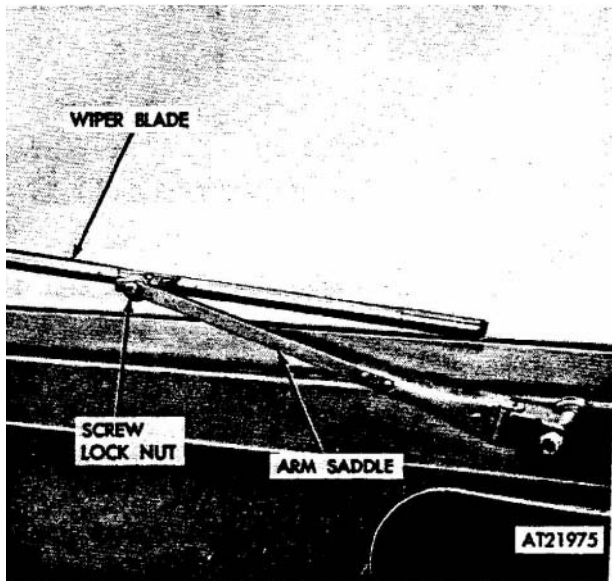

Figure 2-323. Windshield wiper blade, removal and installation.
a. *Removal.* Remove lock nut and screw securing wiper blade to arm assembly saddle. Remove blade (fig 2-323).
b. *Installation.* Position wiper blade in arm assembly saddle by aligning mounting holes and installing screw and lock nut securing blade assembly (fig 2-323).